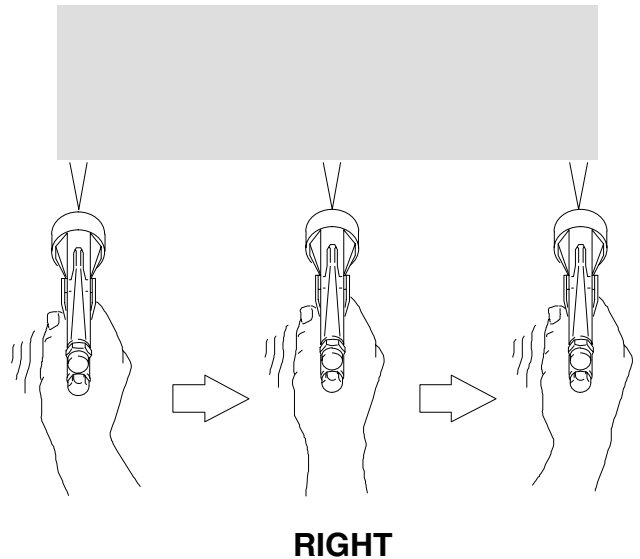

Fig. 14
1. To achieve the best results when applying fluid, keep the gun perpendicular to the surface and maintain a consistent distance of approximately 8 to 10 inches (203 to 254 mm) from the object being sprayed. See Fig. 14.